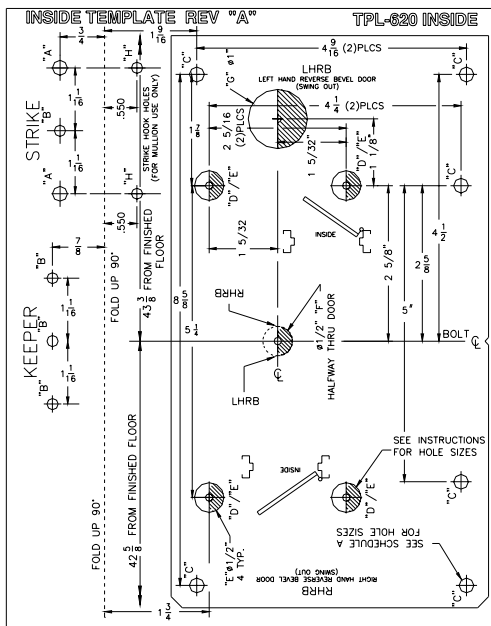

Fig. 5
4. See **Fig. 5** for hole locations.